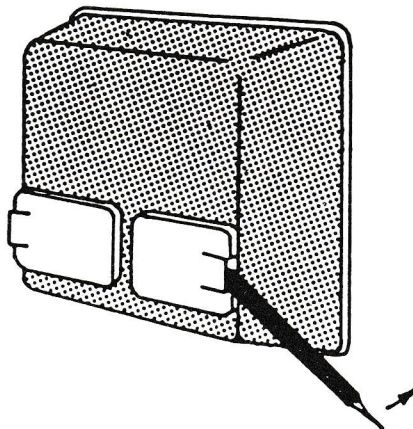

Fig B2 Case 200
9. The facility exists for the line to and from each Post to be tested by BT engineers without the need to man at the Post. To permit this it is necessary for a link plug or plugs to be moved in the grey Case 200, mounted on the wall behind and above the LST (see Fig B2).
10. The right hand of the two covers must first be levered off using a pencil as shown in Fig B2. This will reveal one of two types of testing units.